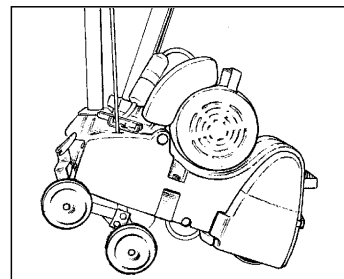

Figure 3
1. With the dolly mechanism in place as described above, tip the machine by lifting up on the operators handle to raise the rear of the machine off the floor/ground until the dolly swings under the machine. (See figure 3)